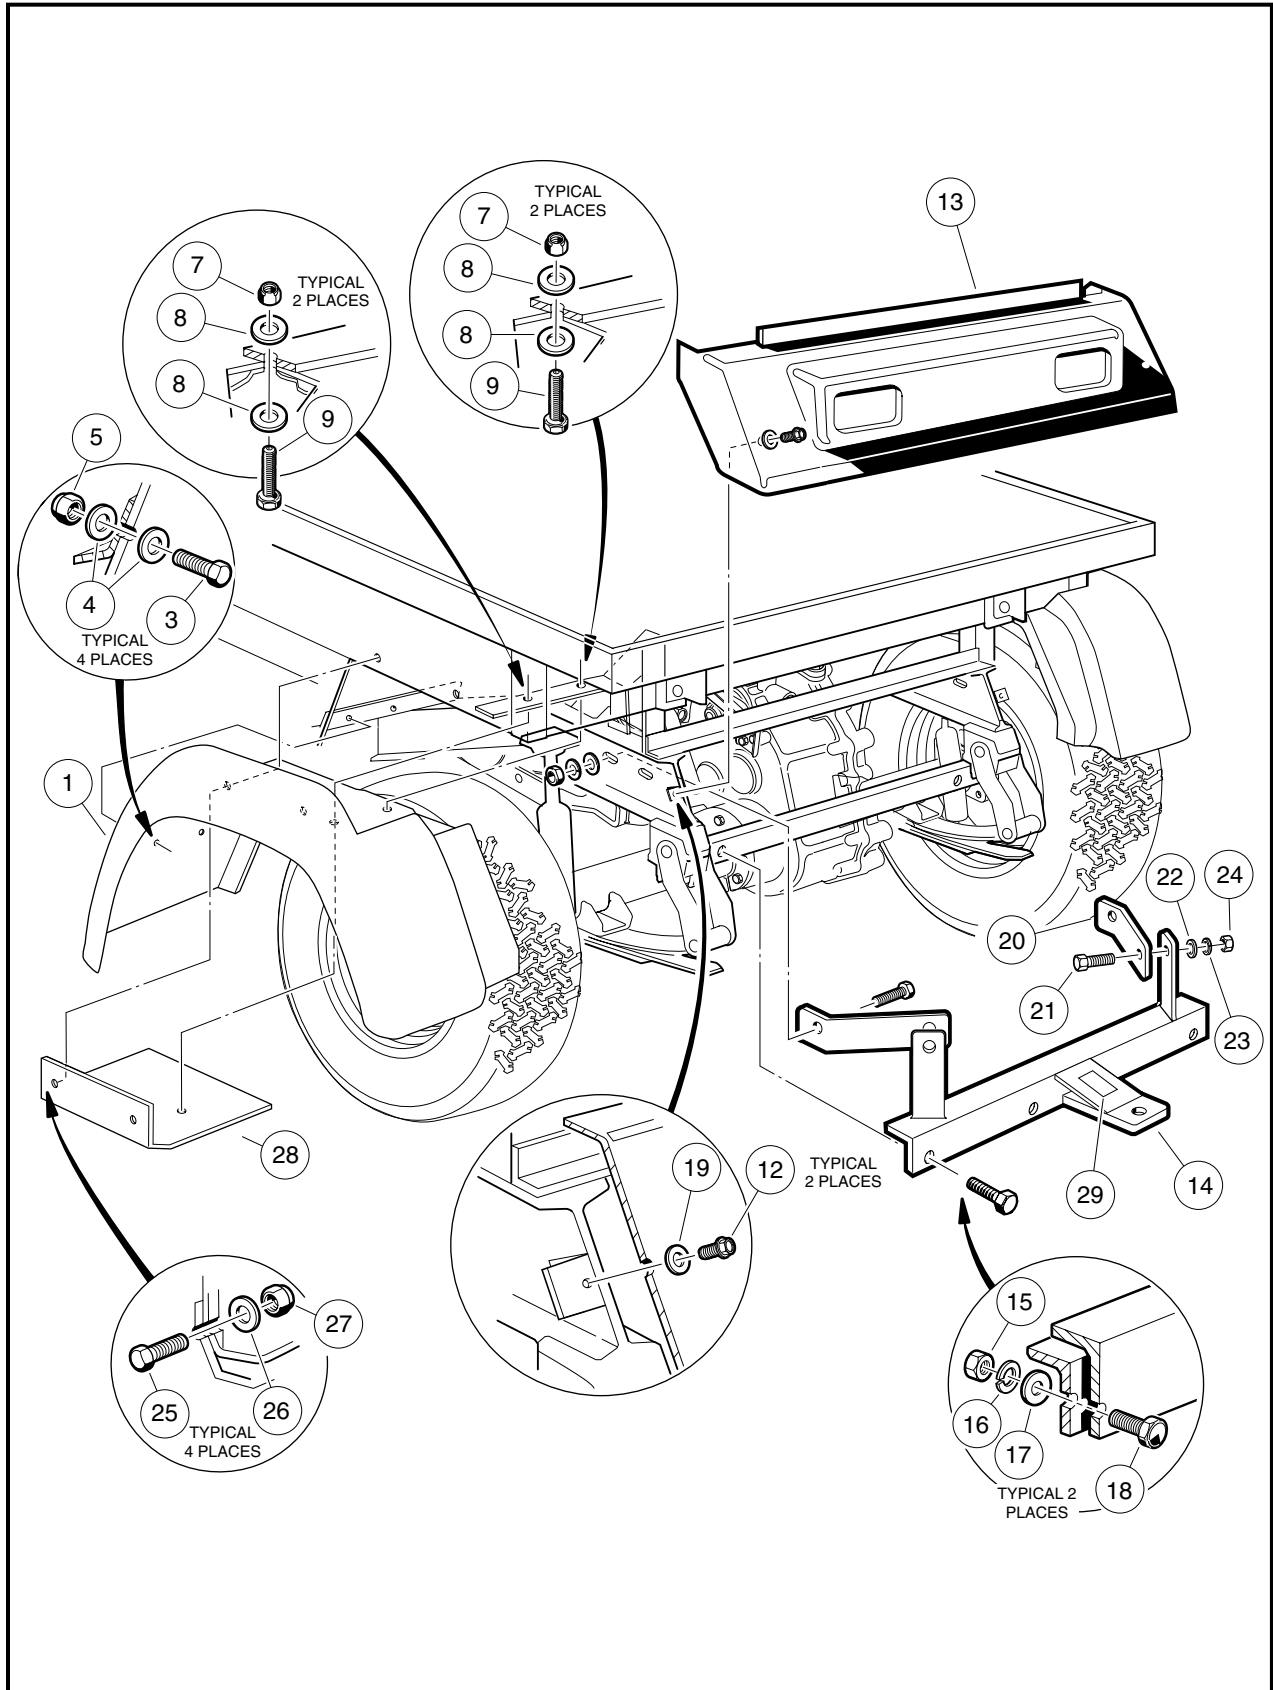

Figure 4-6 Rear Fender, Tailskirt, and Hitch – Vehicle with MC010C-BS00 Transaxle
- 2.1. Remove the two 1/4-20 nylon lock nuts (5), fender washers (4) and 1/4-20 x 1-inch hex-head bolts (3) from the front surface of the fender (1) (**Figure 4-6, Page 4-17**).
- 2.1. Reverse removal procedure to install rear fender. Tighten all bolts securing the fender to the vehicle to 35 in-lb (4.0 N·m) (**Figure 4-6, Page 4-17**). **See following NOTE.**
- 2.1. Remove the two thread-forming screws (12) and flat washers (19) from the tailskirt (13) and slide tailskirt from under the back edge of the rear of the body and vehicle frame (**Figure 4-6, Page 4-17**).
- 2.1. Insert upper edge of tailskirt (13) under, and in front of, back edge of rear body (**Figure 4-6, Page 4-17**).
- 2.2. Remove two 5/16-18 hex nuts (24), lock washers (23), flat washers (22) and 5/16-18 x 1-inch bolts (21) from hitch brace (20) and hitch frame (14) (**Figure 4-6, Page 4-17**).
- 2.3. Remove two 5/16-18 hex nuts (15), lock washers (16), flat washers (17) and 5/16-18 x 1-inch bolts (18) where the hitch frame (14) mounts to the vehicle frame (**Figure 4-6, Page 4-17**).
- 2.1. Reverse removal procedures to install hitch frame (14) to vehicle frame, then install the hitch frame (14) to the hitch braces (20). Tighten all hardware to 15 ft.-lb (20.3 N·m) (**Figure 4-6, Page 4-17**).